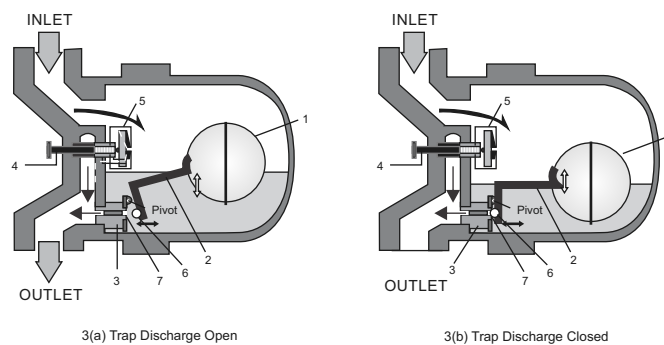

Figure 3: Single Orifice Float trap working
Figure 3 shows a simple float trap operational representation. A float trap works on the Buoyancy Principle. Condensate enters the trap body and raises the float (1). This further opens the orifice, which is at the other end of float lever. The position of the float (1) depends upon the level/load of condensate (flowrate). The float trap continues to discharge condensate continuously. At higher flow rate conditions (like start up) the float rises further to open second orifice in case of TOFT and doesn't allow back up of condensate as long as the load is within the discharge capacity. When the condensate load drops, the float (1) lowers in position and closes the outlet valve (3) with the ball (6) resting on the orifice (7).
* This schematic shows only one orifice. The 2nd orifice is behind the 1st one, which is not visible in this view. The trap in the figure 3 shows a TV+SLR assembly. TOFT also comes with only TV or SLR assembly.